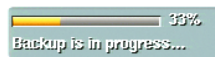

Figure 90. Backup Status Indicators
- d. If the "Configuration data is changed." dialog box is displayed, press the left/right arrow buttons ◀ ▶ on the front panel or remote control to highlight OK, and then press ENTER. Using the mouse, click OK. The system returns to the Live View mode. The backup status indicator is displayed and two messages appear (refer to Figure 90).